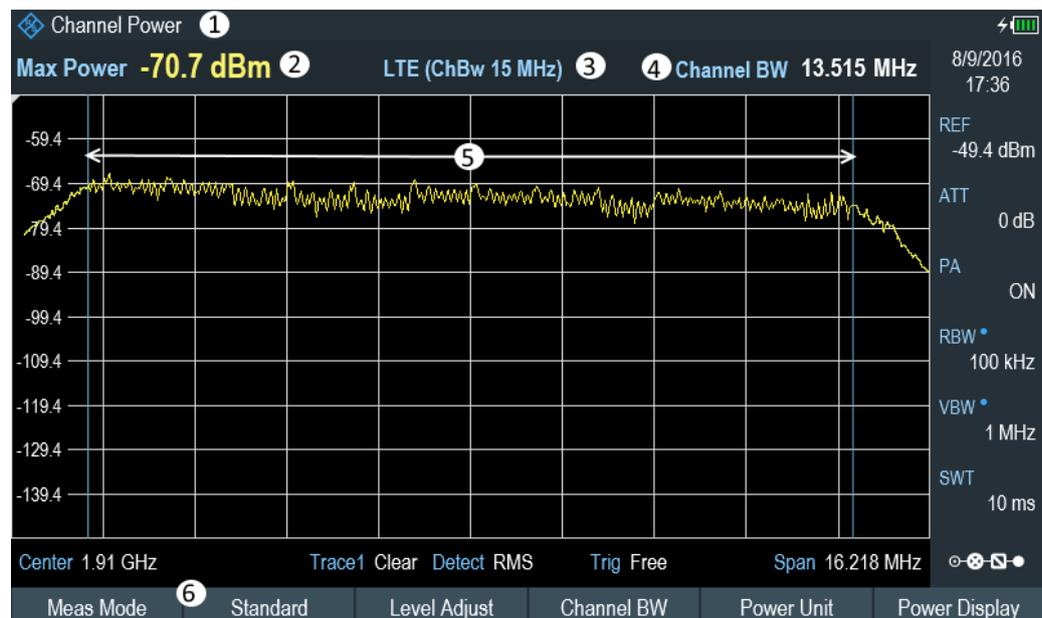

Figure 6-1: Screen layout for channel power measurements
The power display (see item 2 of Figure 6-1) switches from POWER to "Max Power".